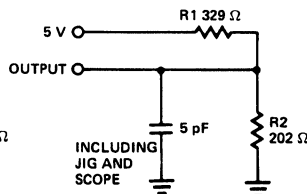

Figure 1b
- tHZCS, tHZOE, tHZR and tHZWE are tested with CL = 5 pF as in Figure 1b. Transition is measured ±500 mV from steady state voltage.